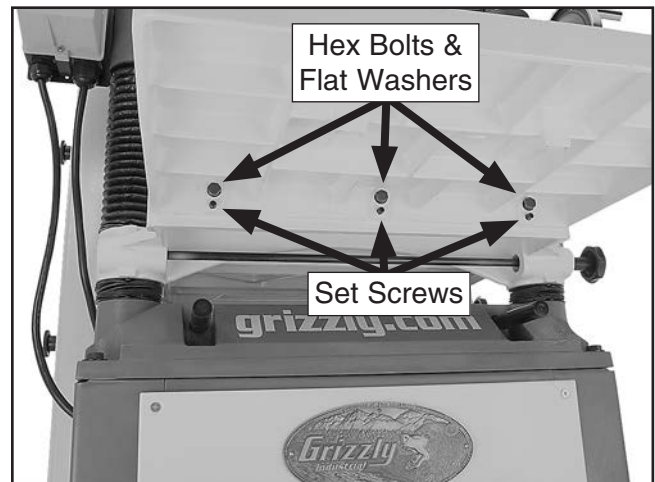

Figure 8. Front extension wing installed (Model G0454 shown).
1. Install (3) M8-1.25 x 20 set screws in the holes in the bottom of the wings (see **Figure 8**).
2. Attach the table extension wings to the planer table with (3) M8-1.25 x 30 hex bolts, 8mm lock washers, and 8mm flat washers, as shown in **Figure 8**, but do not fully tighten the bolts at this time.